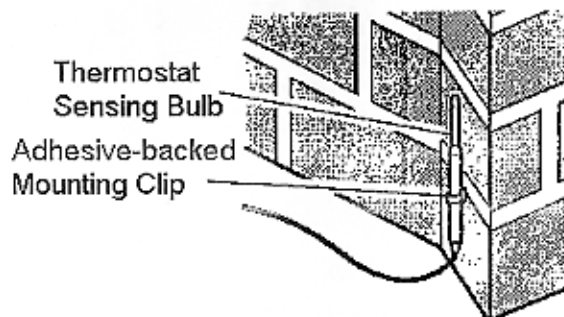
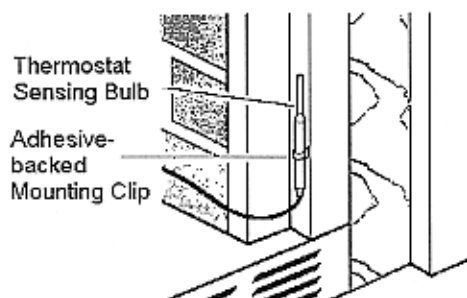
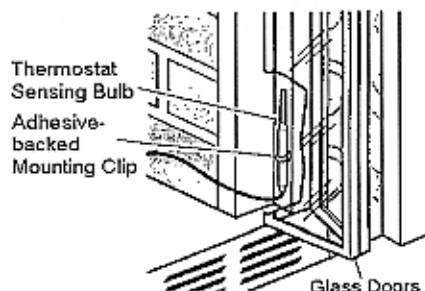

Figure 32- Installing Thermostat sensing Bulb on Masonry Fireplace
Figure 33 - Installing Thermostat Sensing In Factory-Built Metal Fireplace
Figure 34 - Installing Thermostat Sensing Bulb behind Glass Door
3. The thermostat sensing bulb may be located to the lower right front side of fireplace. Determine location of sensing bulb, but do not mount sensing bulb until step 5. If you have a masonry fireplace, (see Figure 32 for location). If you have a factory-built metal fireplace, see Figure 33 for location. If your fireplace has glass doors, position sensing bulb directly behind door gap on right bottom side (see Figure 34).